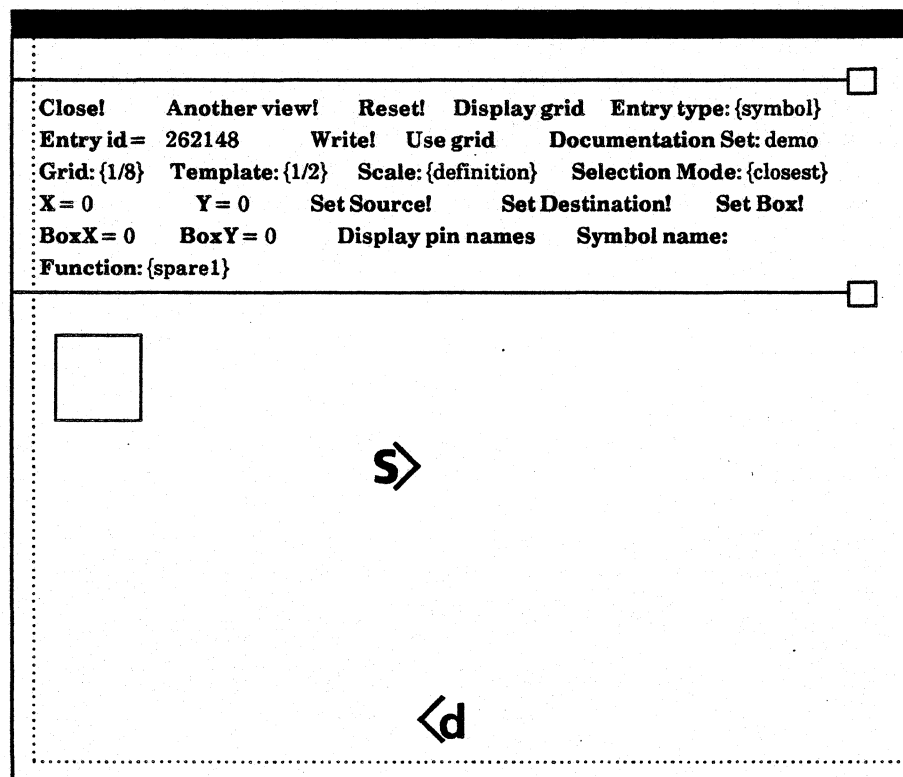

Figure 2.6
- 1) Mark the endpoints of the arc with the source and destination markers. The system draws the arc counter-clockwise from the source marker to the destination marker. The distance between the source and destination markers must be centered at a grid point. See figure 2.6.